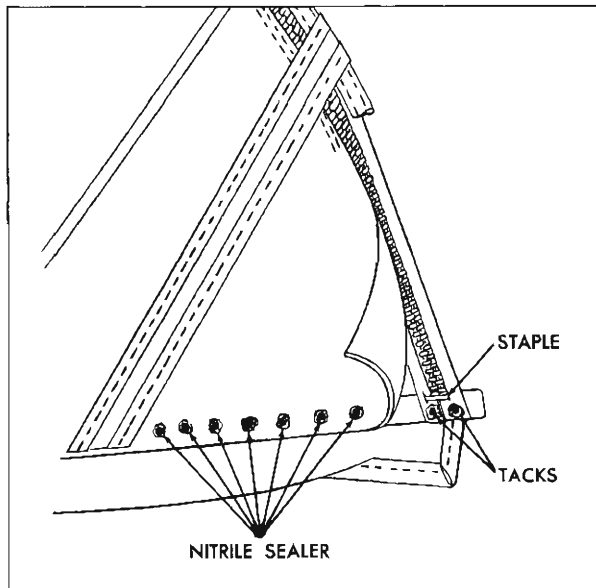

Fig. 21-59 Sealing At Trim Stick
12. Staple both sections of zipper tape together. Staples will aid in preventing zipper scoops from disengaging and also serve as a stop for the slide fastener (Fig. 21-59).
14. Tack zipper tape to rear quarter trim stick (Fig. 21-59). Zipper tape should not be pulled taut as zipper teeth may show through top material after top has been properly installed.
18. Apply convertible top sealer (nitrile) around each tack head used to secure back curtain material and webbing to rear and rear quarter trim sticks (Fig. 21-59).